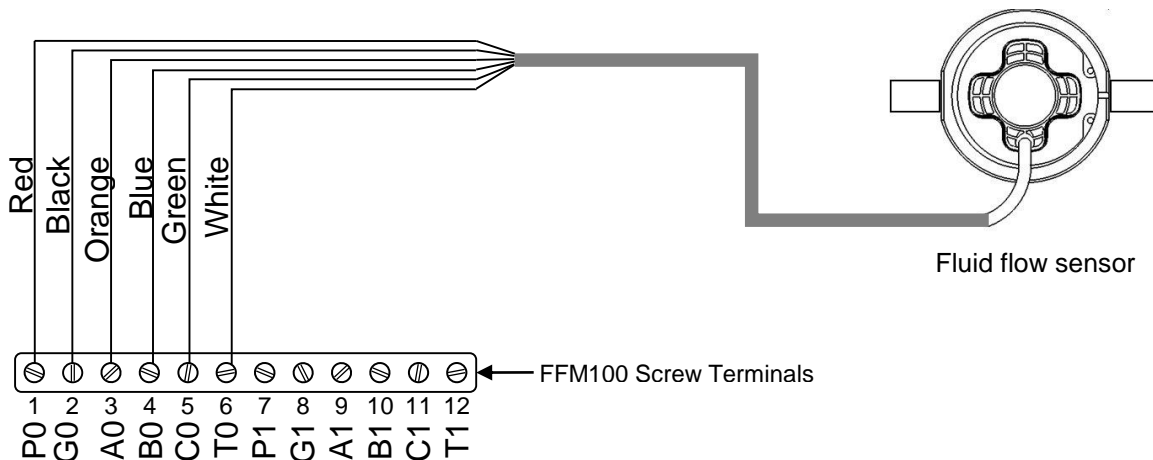

Figure 2 – Fuel Flow Sensor Connection Diagram
- Connect the six wires of the pressure transducer to a free pressure monitoring channel. Please refer to Figure 2 below for details.